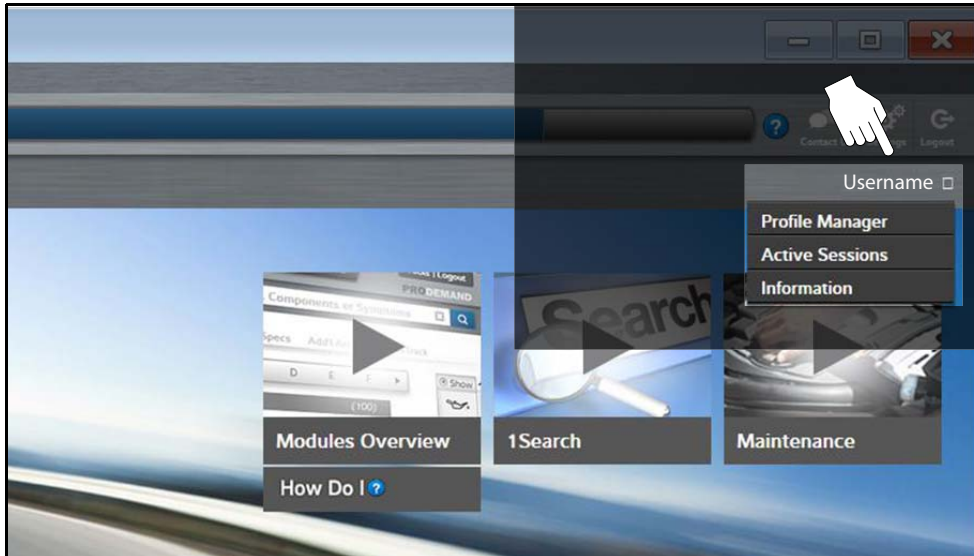

Figure 17-13
2. At the ShopKey Pro start page, select your username (Figure 17-13), then select **Profile Manager** from the dropdown menu.